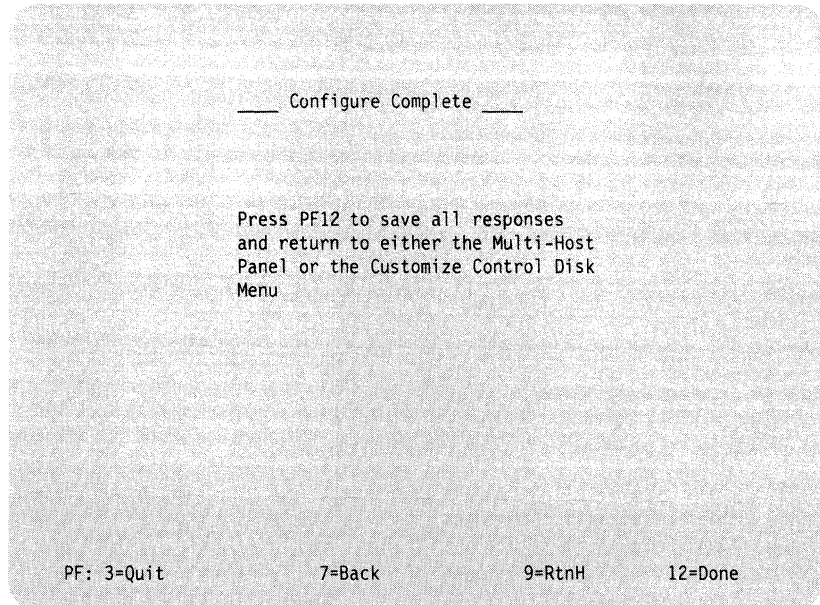

Figure 2-18. Configure Complete Panel
Step 26 The Configure Complete panel is shown. See Figure 2-18.